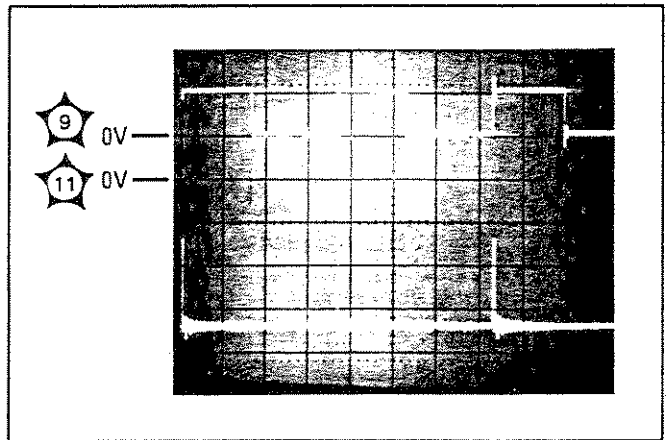

Figure 15. Pulse Input (A1TP9, 5V per division) vs. Waveform at A1TP11 (0.5V per division) Horizontal scale: 1 μs per division.
e. If the rise time is out of specification, use waveforms (Figures 15 and 16) to troubleshoot U5, Q5, and Q6.